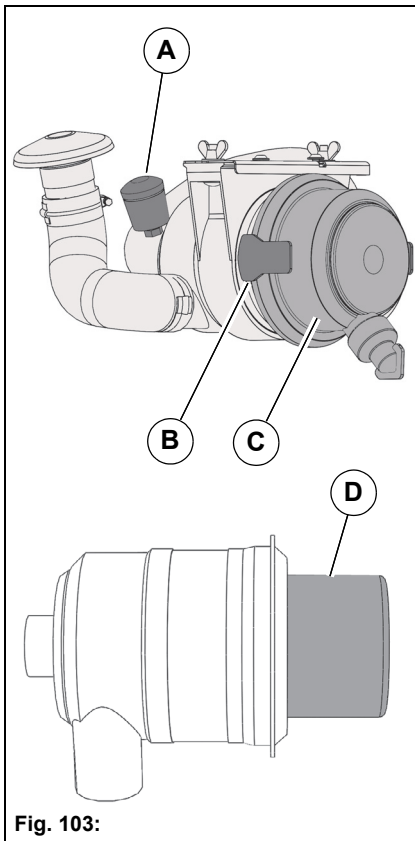

Fig. 103:
Check the filter insert **Fig. 103-D** corresponding to the maintenance indicator **Fig. 103-A** and clean it if required. Change the filter insert at the latest every 500 operating hours.
3. Open the clips **Fig. 103-B** and remove the filter lid **Fig. 103-C**.
4. Remove the filter insert **Fig. 103-D** and clean it from inside to outside carefully with dry compressed air (max. 3 bar) by up and down movements of the compressed air tube.
4. Remove the filter insert **Fig. 103-D**.